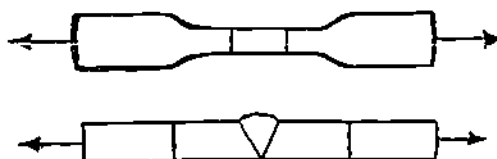

Figure 9-15. Reduced Section Tensile Test
**Tensile Test** This test is designed primarily to determine the yield point and tensile strength of the metal. Specimen is secured in the machine and stretched until the metal breaks (Figure 9-15). To determine the tensile strength and yield point of the weld metal a specimen is prepared consisting of weld metal only. Weld specimens are prepared by leaving the reinforcement on and subjecting the whole coupon to the tensile test.